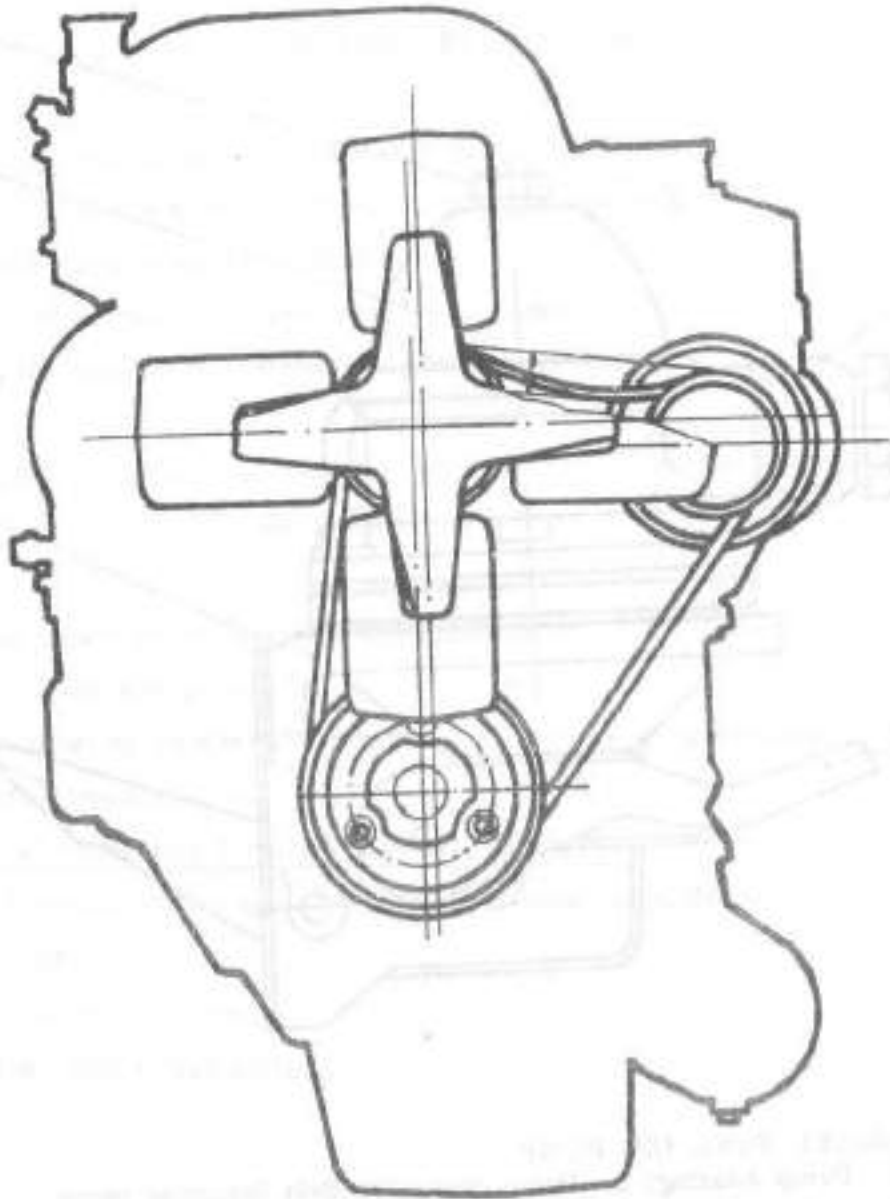

Fig. 2.29. CHECKING ELEMENT FASTENING ON D-127 ENGINE
- Press the V-belt, in the area between cooling fan and alternator pulleys (in the upper engine area - see fig.2.29), with a force of about 5 - 7 daN (kg); if the belt tension is correct the belt dip should be of 12 mm. If the dip is more than 12 mm, the V-belt should be tensioned.